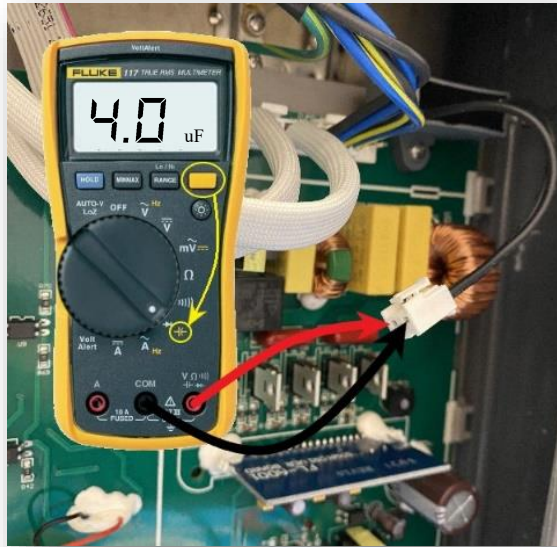

Figure 29 - Capacitance Check on Run Capacitor
- a. The capacitance can be measured with a Multimeter that has a capacitance measurement setting . The Selection Button on the Multimeter may need to be pressed to enable the Capacitance setting (**See Figure 29**). The Multimeter should read $\sim 4.7 \mu\text{F}$.